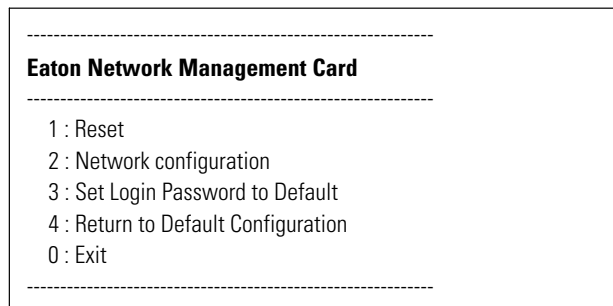

Figure 9. ConnectUPS-MS Card Main Menu
- Enter **admin**. The main menu displays (see Figure 9).